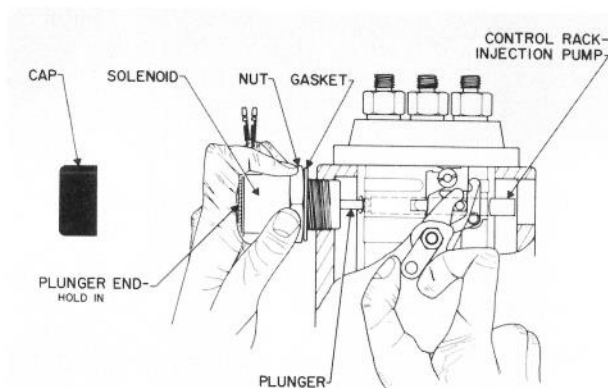

Figure 49
4. Remove gasket and nut from old solenoid and install on new solenoid (Fig. 49). Thread nut fully onto solenoid.
5. Remove cap from solenoid, start to thread solenoid into engine (Fig. 49).
6. Push plunger on solenoid fully in and hold (Fig. 49).
7. Rotate emergency engine stop lever to STOP position (Fig. 49).
8. Continue to hold solenoid plunger in and thread solenoid into engine until inner end of plunger contacts control rack of injector pump (Fig. 49). Contact will be indicated when outside end of plunger is pushed away from solenoid body.
10. Hold solenoid body to prevent it from turning and tighten nut against engine to secure adjustment (Fig. 49). DO NOT overtighten nut or solenoid may become distorted causing it to malfunction.